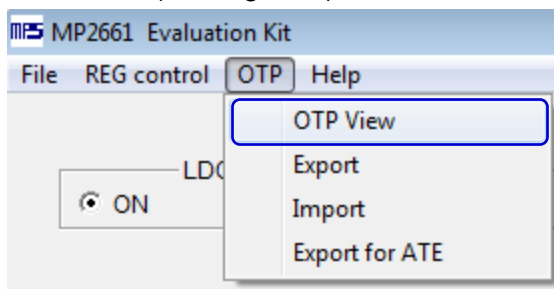

Figure 8: Select OTP
3. Select the “OTP View” in the tool bar. (see Figure 8)